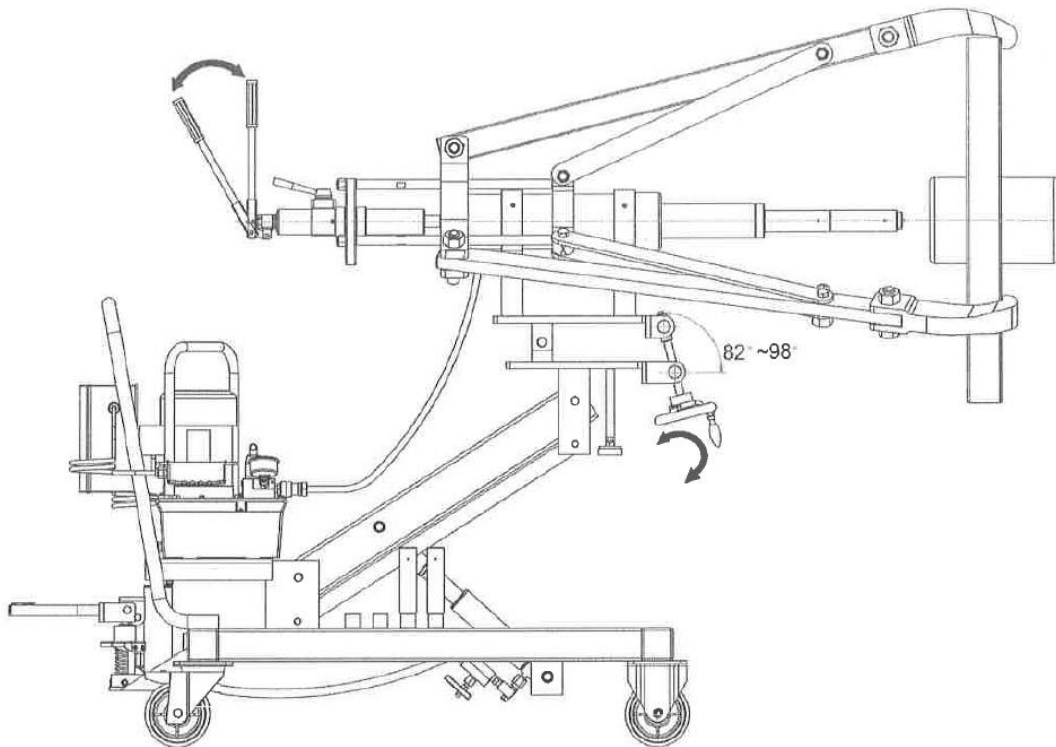

Figure 3 – Adjusting the Puller Head
- 5.3.2 To ensure the puller head is on the same centreline as the object to be pulled, rotate the round handle under the puller clockwise to angle the puller head down; and in a counter clockwise direction to angle the puller head up (see Figure 3).